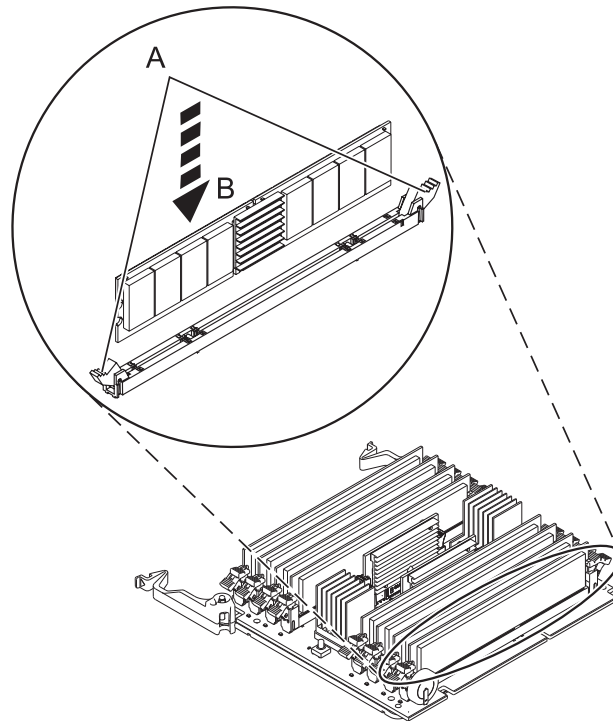

Figure 13. Replacing a memory module
13. Ensure that the connector locking tabs (A) are pushed open into the unlocked position, as shown in Figure 13, before installing a new memory module.
14. Carefully grasp the memory module along the edge (B) and align it with the connector.